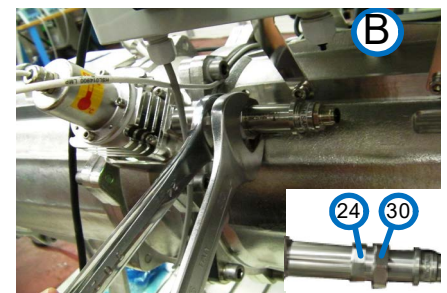

Figure 10-46: Loosening nuts B (Generic View)
- Step 2.** Grip the Sensor casing with wrenches # 24 and # 30, as shown in view B, **Figure 10-46**. The inset shows the wrench #24 in the left hand gripping the casing's left band and wrench #30 in the right hand gripping the casing's large nut on the right.